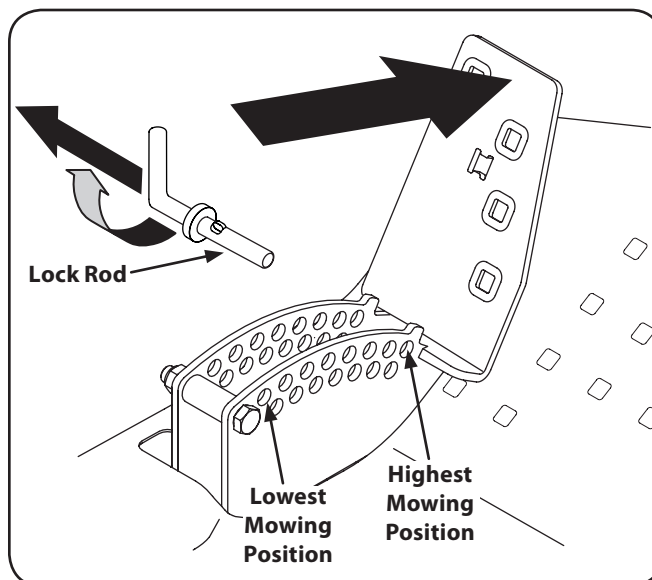

Figure 7-3
2. Remove the lock rod by pressing the pedal forward to release tension then rotate the lock rod until the end of the rod points upward and slide it out of the deck height bracket. See Fig. 7-3.
- Place the deck lift pedal in the highest mowing position and secure it by placing the lock rod behind the pedal. See Fig. 7-3.